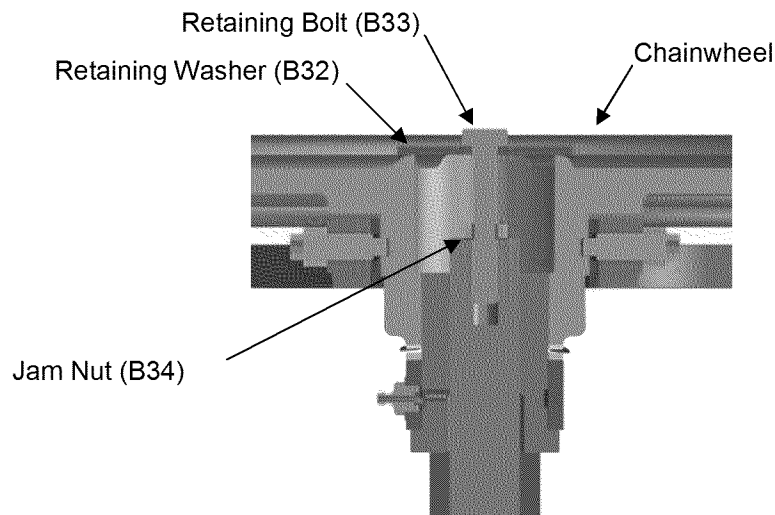

FIGURE 3-Detailed View of Chainwheel Retaining Components on 2-12" Valves
7. As shown in Figure 3, insert the large hex-head retaining bolt (B33) through the 2.5-inch retaining washer (B32) and stake the washer to the head of the bolt. This keeps the washer from sliding down the shaft of the bolt when the valve is open (when the stem is extended upward).